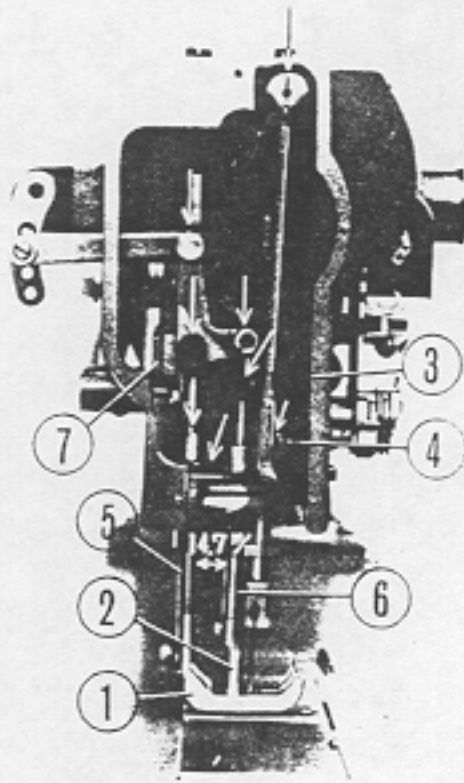

Fig. 2
The alternate lifting amount of the lifting presser foot (Fig. 2 ①) and the vibrating presser foot (Fig. 2 ②) is equal, normally, and this lifting height is adjusted according to the thickness of the sewing cloth. However, sometimes this alternate lifting amount may be changed by various kinds of materials.
To adjust to this position, loosen the needle bar clamping screw (Fig. 2 (3)) and by moving the needle bar up and down, determine the correct height. When this adjustment is completed, tighten the screw.
The correct relative position of the needle bar frame (Fig. 2 (4)) and the presser bar (Fig. 2 (5)) should be such that when the stitch length is set at "0", the clearance between the presser bar and the vibrating presser bar (Fig. 2 (6)) becomes 17 m/m (43/64").
To adjust the height of the presser foot, loosen the set screw of the knee lifter bell crank bracket (Fig. 2 ⑦) with the knee lifter in raised up position and make the clearance between the lower surface of the presser foot and the upper surface of the throat plate at 16 m/m(5/8") and tighten the screw. To make the presser foot and the vibrating presser foot to rise to the same height, lower the presser foot, loosen the set